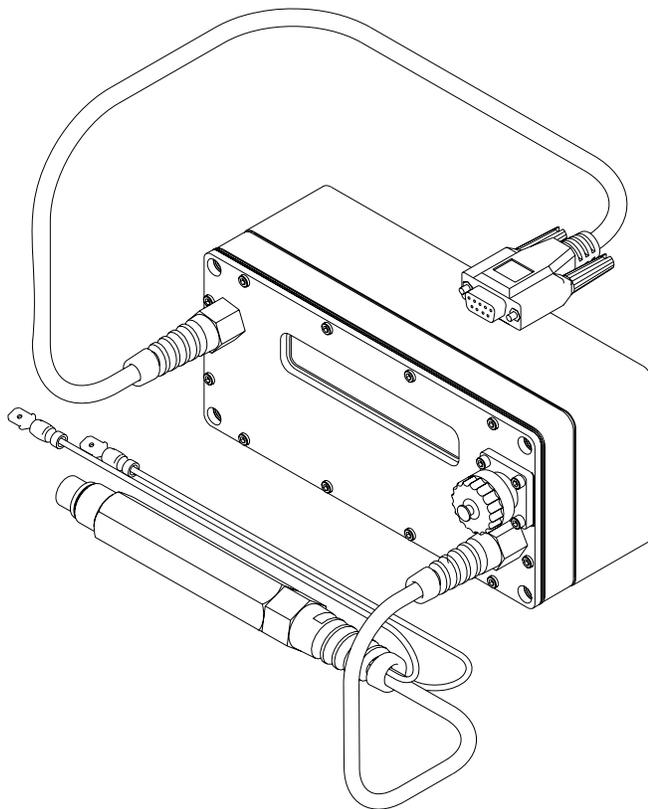

Figure 2-8 Test Box Assembly.
2.8.1. Figure 2-8. Provides a drawing of the Test Box. The Test Box is used to program and evaluate the condition of the Controller and Remote Units. The following data is displayed by the Test Box Assembly.